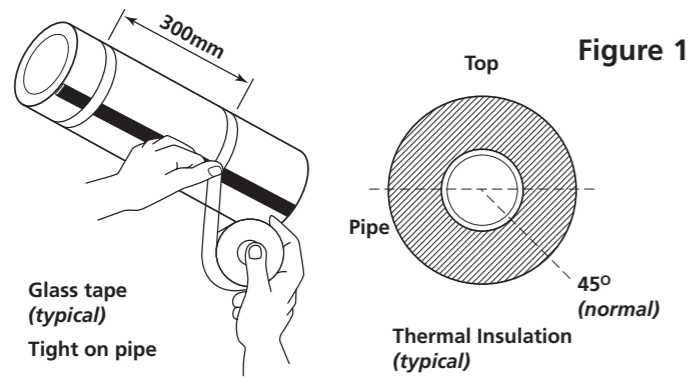

Figure 1
- Fix in place with glass cloth tape (see figure 1) at 300mm intervals and additionally where necessary.
- On horizontal pipes fix on lower quadrant as shown in figure 1 and not on bottom of pipe.